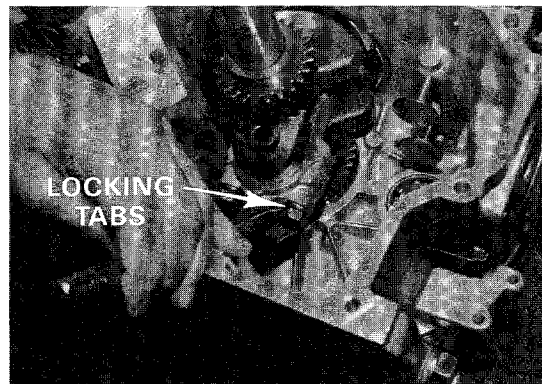

Figure 6-32
5. Turn crankshaft (87) to expose connecting rod bolts (97) (**Figure 6-32**).
6. Bend down bolt lock tabs, remove bolts (97) (**Figure 6-32**).
7. Remove connecting rod cap (101), lift piston and connecting rod out top of crankcase.